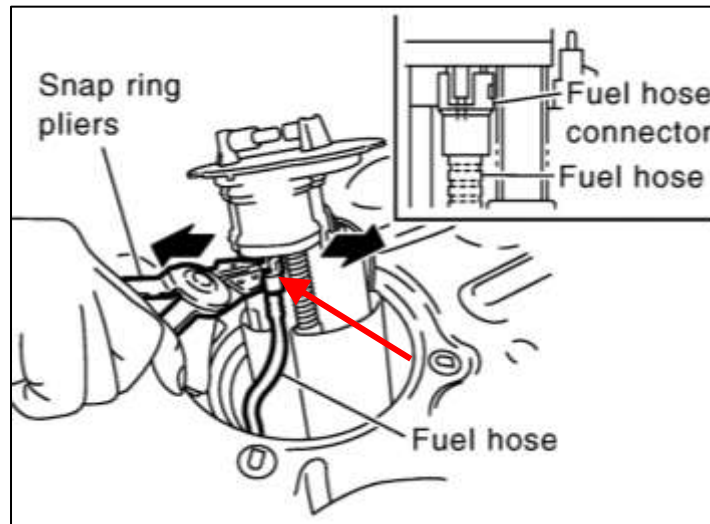

Figure 4
11. Using an 8mm socket, remove the (6) six M5 bolts securing the OE Fuel Top Hat to the Fuel Tank.
12. Carefully lift upwards to begin removing the Fuel Pump Basket Assembly. There is an internal siphon hose connected to the basket that needs to be removed. Once the basket is about halfway out, disconnect the siphon hose as shown in *Figure 4* below.